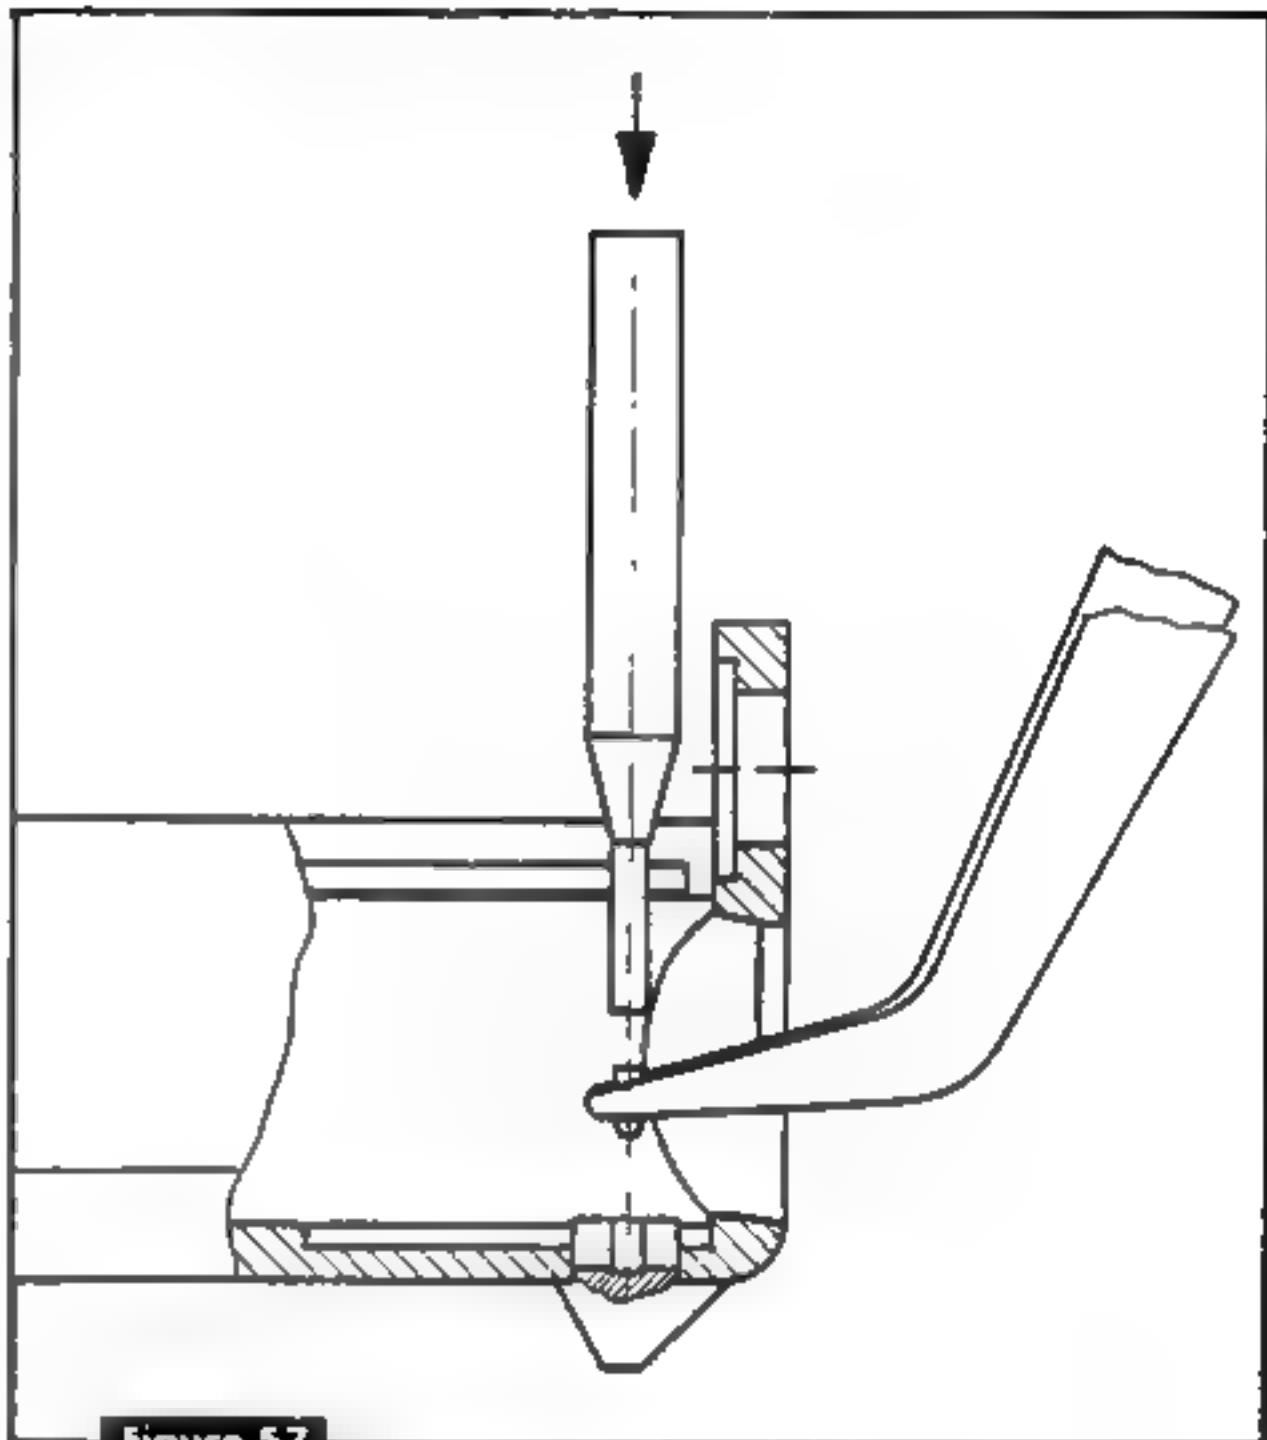

Figure 57
- With a pin punch and a small hammer tap the fixing pin into the base of the front sight (Figure 57).